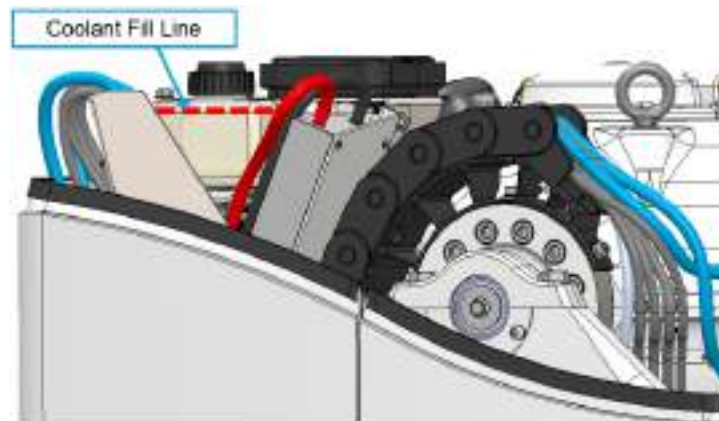

Figure 4: Seakeeper 1 Coolant Level
6. Remove reservoir cap and pour mixture in until level reaches top face of the reservoir enclosure, as shown in Figure 4.